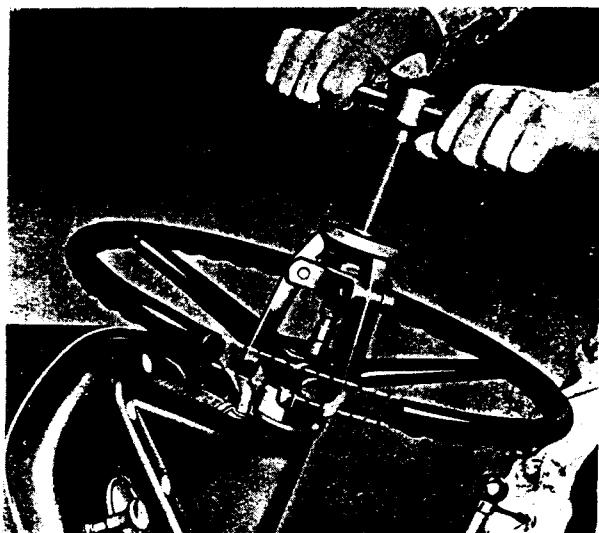

FIG. 3.
1. Using service tool FTB.8, Fig. 3, withdraw steering wheel (16) free from Woodruff key (12) in tapered